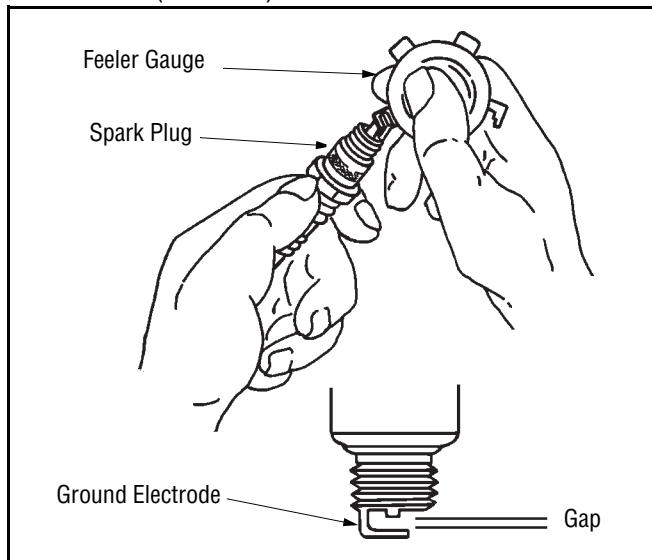

Figure 18
- Check the gap using a feeler gauge and adjust, if necessary, by carefully bending the ground electrode. See Figure 18. Set the spark plug gap to 0.030 in (0.76 mm).